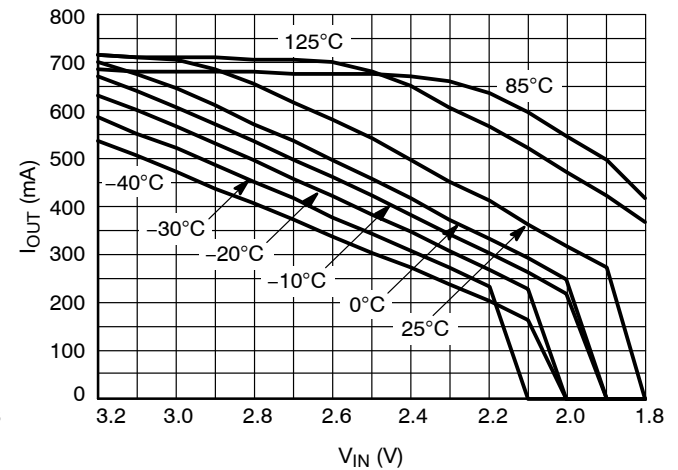

Figure 22. Output Current Capability for the 1.5 V Version
28. For output current capability for T_A < 0 °C, please refer to Figure 22.